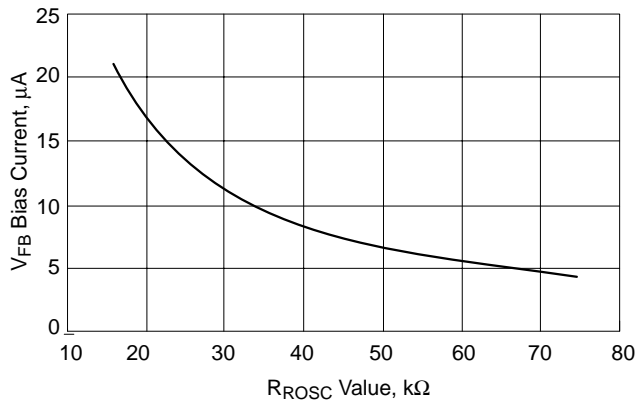

Figure 4. VFB Bias Current vs. RROSC Value
2. The  $V_{\text{FB}}$  Bias Current changes with the value of  $R_{\text{ROSC}}$  per Figure 4.
To set the no-load positioning, a resistor ( $R_9$ ) is placed between the output voltage and  $V_{FB}$  pin. The  $V_{FB}$  bias current will develop a voltage across the resistor to decrease the output voltage. The  $V_{FB}$  bias current is dependent on the value of  $R_{ROSC}$ , as shown in Figure 4.